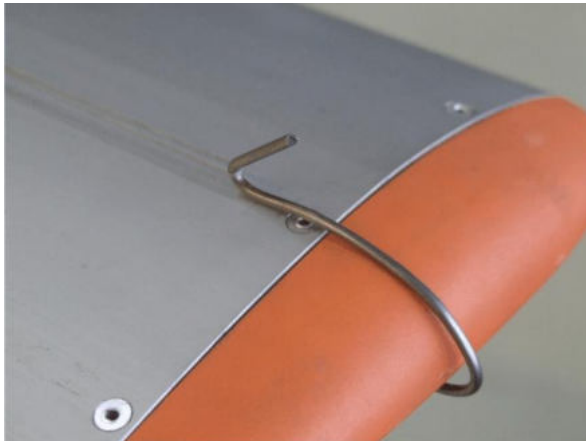

Fig. 2 - Positioning of measuring cord
- 2 String measuring cord between both outer blade tips. Position at rivet as depicted in Fig. 2 'Positioning of measuring cord'.